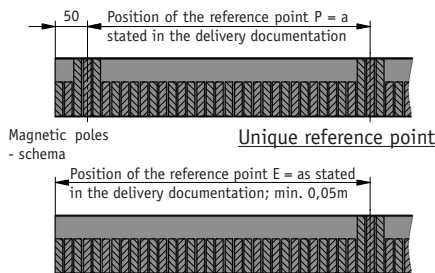

Fig. 7: Definition of the counting direction with magnetic strip and assemblage sensor/magnetic ring, gap measure, tolerances
- When mounting the magnetic sensor, ensure that the gap between strip & sensor and the max. admissible deviation are maintained over the total measuring length (see fig. 7)!